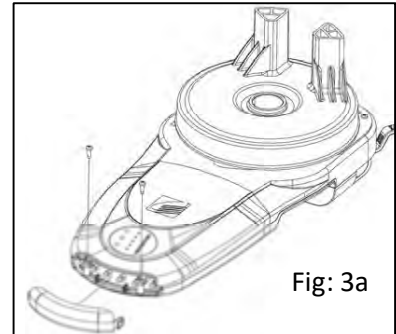
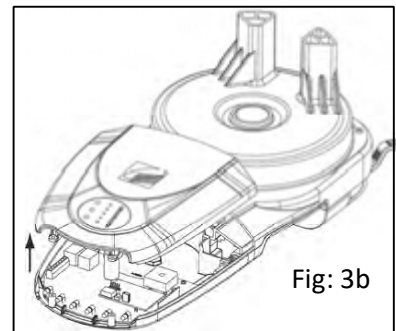

Fig: 3a
Fig: 3b
**Note:** In the event of very tight side-room where the unit can't be slide through the bottom control unit of the Rollamatic Gen II operator can be separated and fit back again upon completion of installation. To separate the Control unit remove the light lens cover and undo the two screws and lift the control unit cover (fig: 3a) and now you can access the two bolts and unscrew them to separate the control unit (fig: 3b). Undo the motor connection wires and hall IC cable from the circuit board. The control unit can also be mounted on the wall in which case a motor wire extension loom is required.